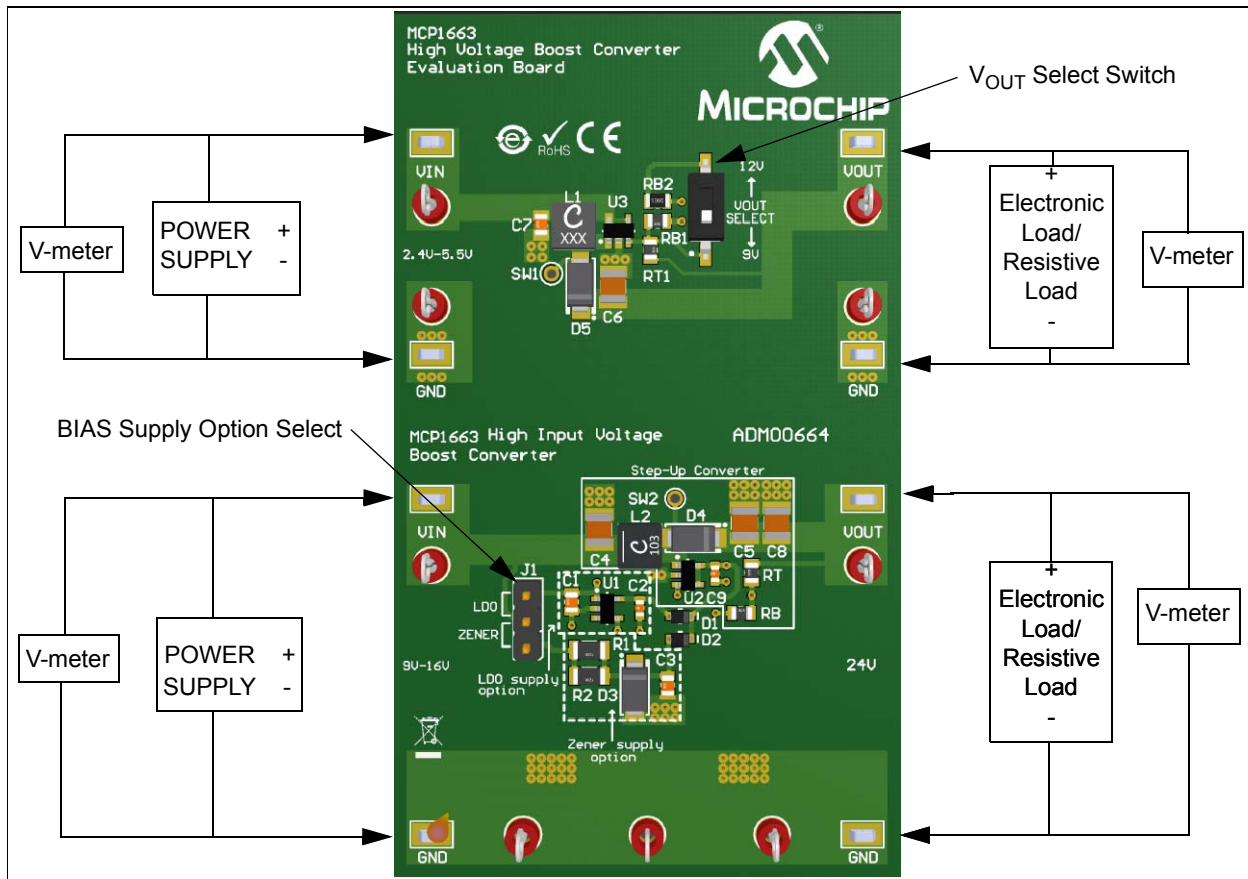

FIGURE 2-2: MCP1663 9V/12V/24V Output Boost Regulator Evaluation Board Setup.
1. Connect the input supply as shown in Figure 2-2. The input voltage should not be higher than 5.5V.
1. Connect the input supply as shown in Figure 2-2.